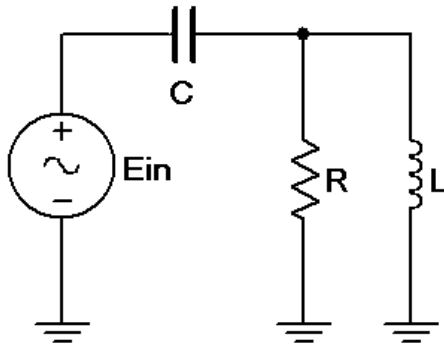

Figure 8.1
1. Using Figure 8.1 with a 10 kHz sine wave at 10 V p-p source,  $R=1\text{ k}\Omega$ ,  $L=10\text{ mH}$ , and  $C=10\text{ nF}$ , determine the theoretical inductive and capacitive reactances, parallel branch reactance and total circuit impedance, and record the results in Table 8.1 (the experimental portion of this table will be filled out in step 5). Using Ohm's law and the voltage divider rule compute the capacitor and inductor-resistor voltages along with the input current and record them in Table 8.2.
2. Build the circuit of Figure 8.1 using  $R=1\text{ k}\Omega$ ,  $L=10\text{ mH}$ , and  $C=10\text{ nF}$ . Set the generator to a 10 kHz sine wave and 10 V p-p. Make sure that the *Bandwidth Limit* of the oscilloscope is engaged for both channels. This will reduce the signal noise and make for more accurate readings.
15. Build the circuit of Figure 8.1 in a simulator. Using Transient Analysis, determine the voltage across the inductor and compare the magnitude and phase to the theoretical and measured values recorded in Table 8.2.
3. In general, how would the phasor diagram of Figure 8.1 change if the frequency was raised?